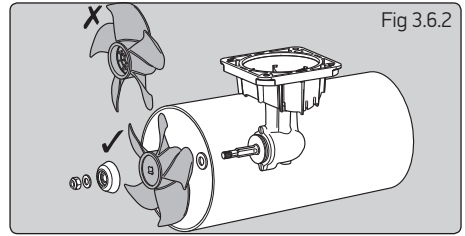

Fig 3.6.2
- Fig 3.6.2 - Tighten hub/saddle bolts to 9 Nm (6.6 lb.ft) for 140 or 21 Nm (15.5 lbs.ft) for 185.